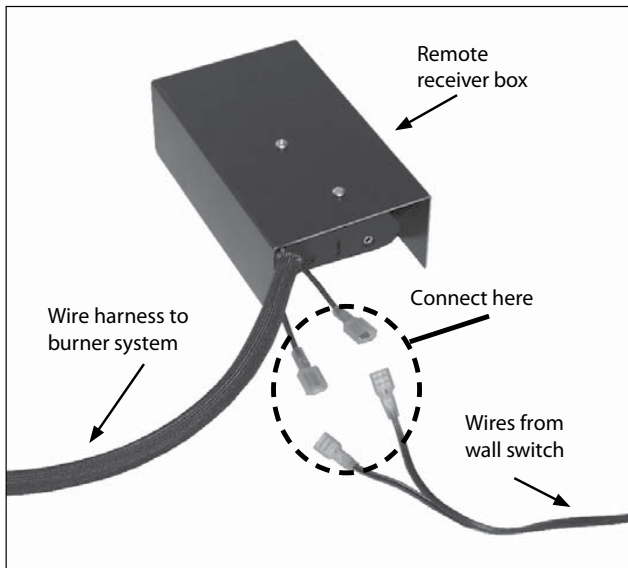

Fig. 1 - Connect wall switch to remote receiver box
3. Locate the two wires coming out of the rear of the remote receiver box, and connect them to the two wires routed in from the wall switch (see Fig. 1).